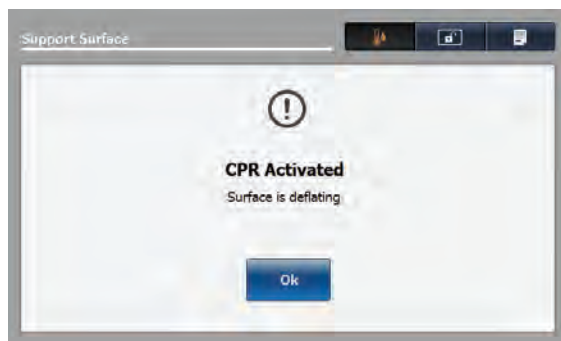

Figure 69: CPR Activated — Surface is deflating
- After you activate the CPR straps or CPR release pedal the screen displays (Figure 69 on page 72).